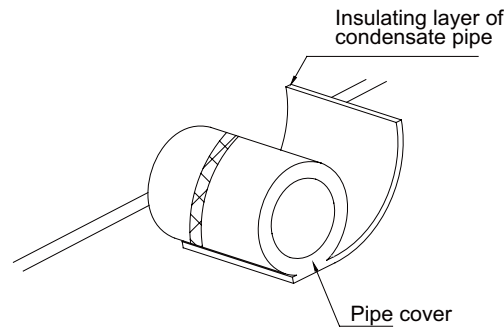

Figure 1-1-10
- ◆ The Drainage Pipeline shall be installed with an inclining angel of 5~10°, so as to facilitate the drainage of condensate. The joints of the Drainage Pipeline must be covered by thermal insulation materials to avoid generation of exterior condensate. (As shown in Figure 1-1-10)